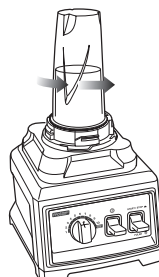

Fig. 12
- 7 When you have reached your desired consistency, turn the Nutri Ninja cup counter clockwise (Fig. 12) and pull straight up to remove. (Fig. 13)